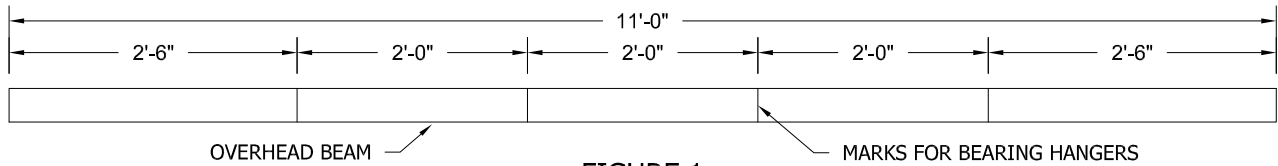

FIGURE 1
2. Make marks for bearing hangers on the 11'-0" (3.4m) overhead beam (3½" (90mm) O.D.) as shown in Figure 1.